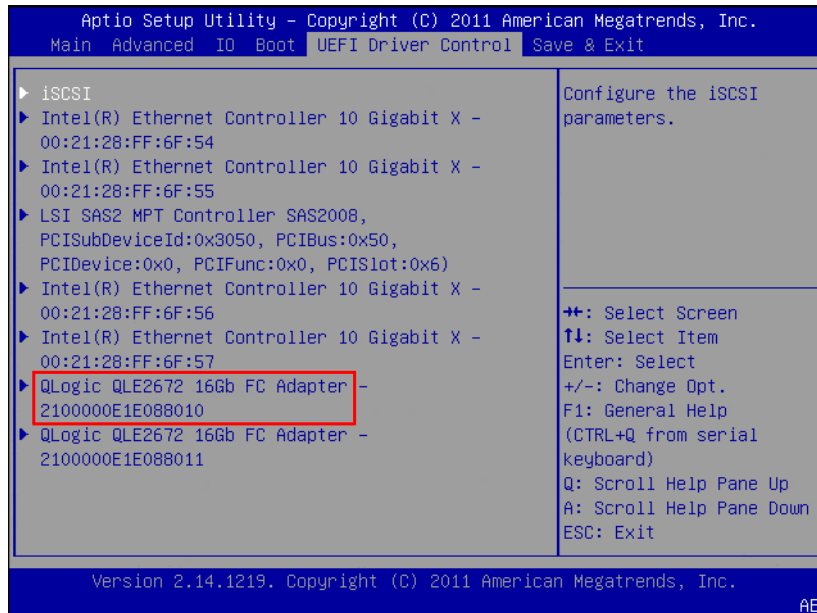

Figure 3-13. UEFI Driver Control Page in UEFI Setup
3. In the left pane, select a QLogic 16Gb Fibre Channel Adapter. Figure 3-13 shows an example.